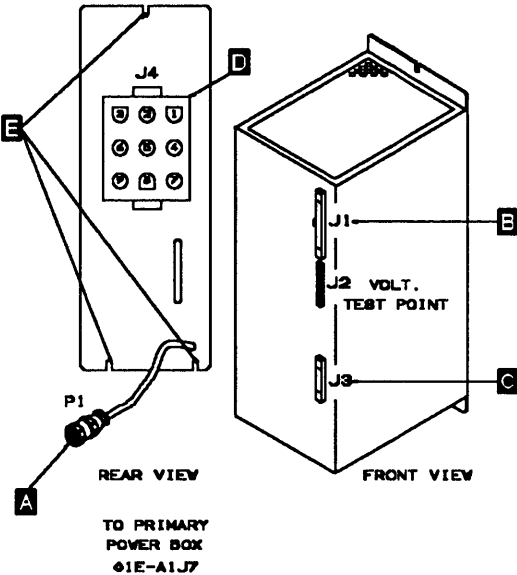

Figure 5-53. PS Type 2
- a. Press the 'Function' key on the control panel until the 'MOSS IML' function (1) is displayed.
- c. Using Table 5-2 on page 5-56, measure the voltages on the FDD connector (J2). If the voltages are not within tolerance or are missing, check on the voltage test points of the PS type 2, refer to Figure 5-53 on page 5-56. If that is incorrect, exchange the PS type 2.
- c. Using Table 5-3 on page 5-58 measure the voltages on the HDD connector (J3). If the voltages are not within tolerance or are missing, check on the voltage test points of the PS type 2; refer to Figure 5-53 on page 5-56. If they are incorrect, exchange the PS type 2.